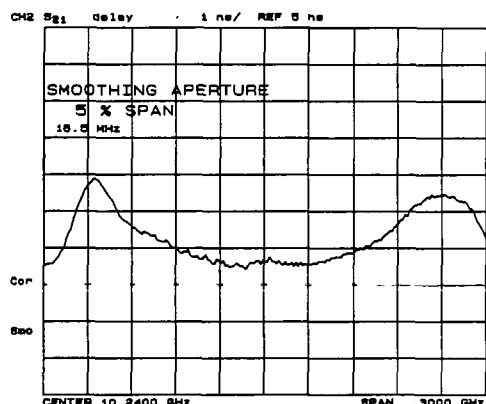

Figure 4-11. Group Delay Format
**[DELAY]** (DELA) selects the group delay format, with marker values given in seconds. Figure 4-11 shows the bandpass filter response formatted as group delay. Group delay principles are described in the next few pages.